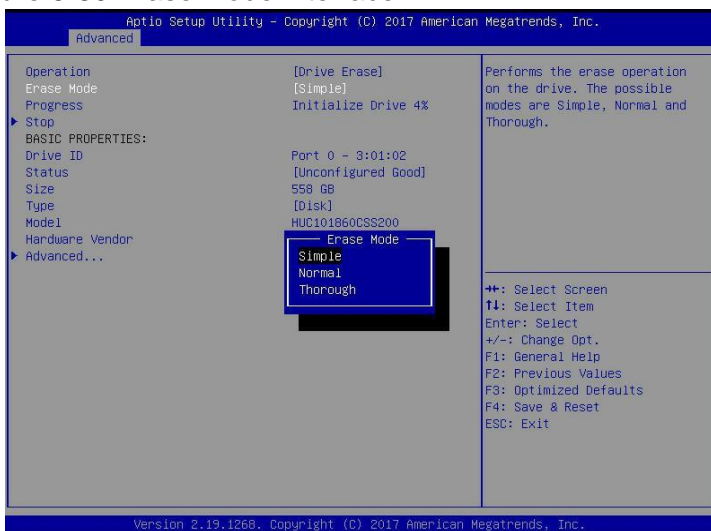

Figure 6-80
d) Enter the interface shown in Figure 6-80, press Enter, and then select the erase mode in the pop-up dialog box
✧ Figure 6-80 Erase Mode interface